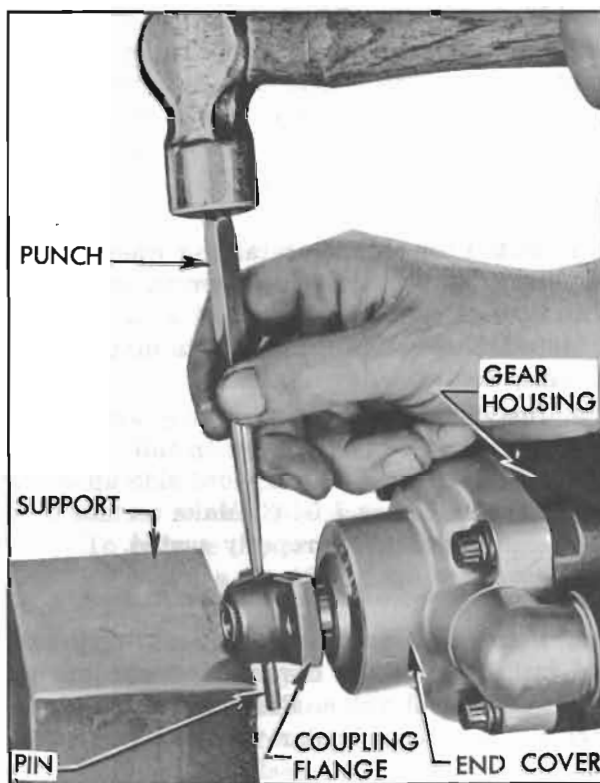

Figure 8-24—Removing Coupling Flange
2. Pull actuator lever out of end cover and remove flexible coupling and mark coupling flange and worm shaft before disassembly. Support coupling flange and remove coupling flange and felt washer from worm shaft by driving pin out with punch. See Figure 8-24.